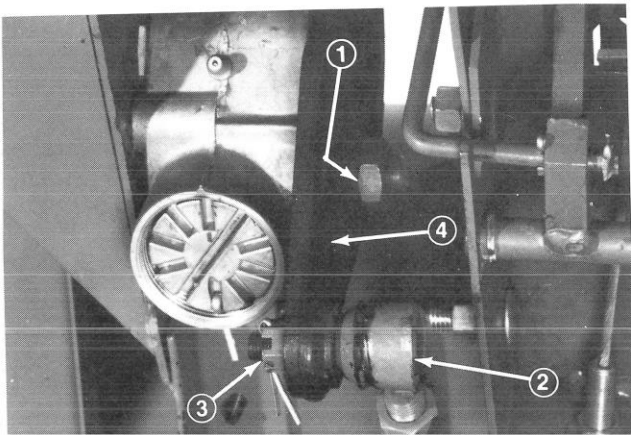

Figure 67
4. Locate jam nut and lever stud at left side of steering gear (Fig. 67). Insert screwdriver into stud slot and loosen jam nut.
1. Remove cotter pin and slotted nut from tapered socket that connects steering rod and steering arm. Separate tapered socket from steering arm (Fig. 67).